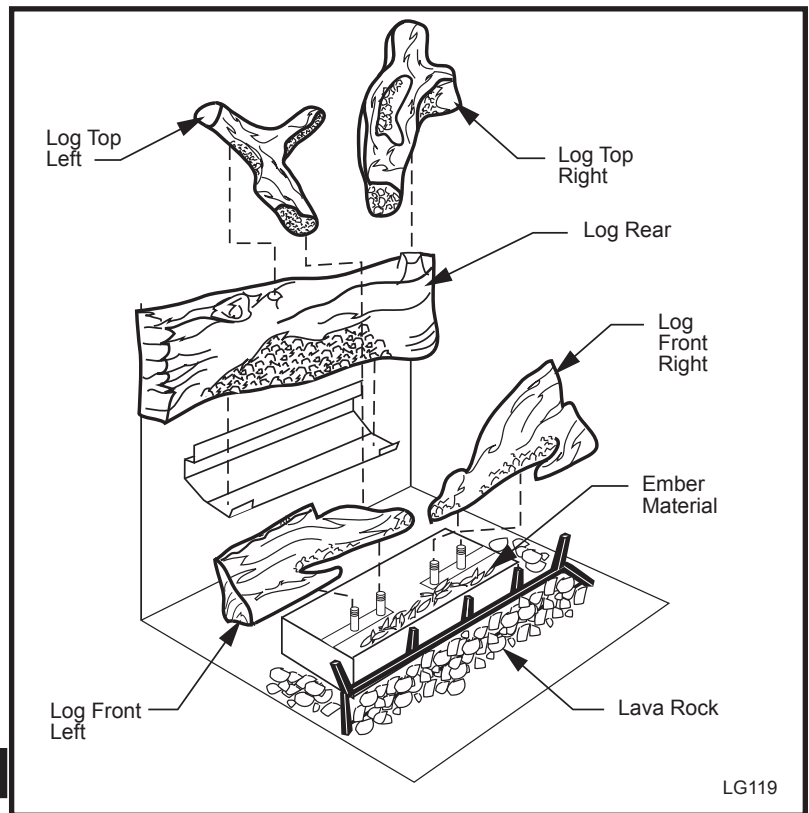

Fig. 11 NV360 log, lava rock and ember material placement.
6. Place top cross logs onto locator notches. Ensure logs are secure. (Fig. 11 or 12)